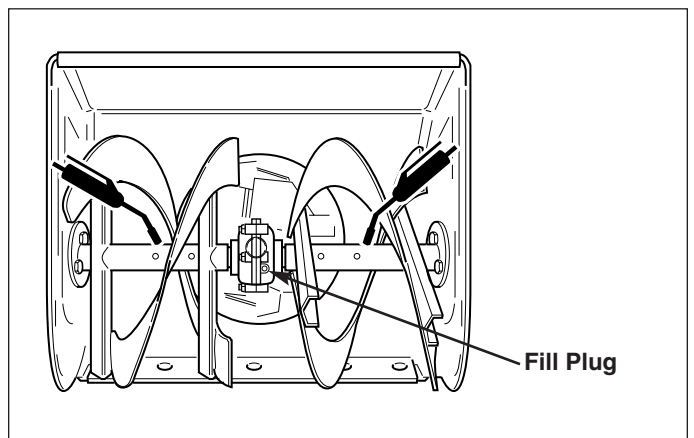

Figure 12. Checking Auger Gear Case Lubrication
2. Remove the fill plug (Figure 12).